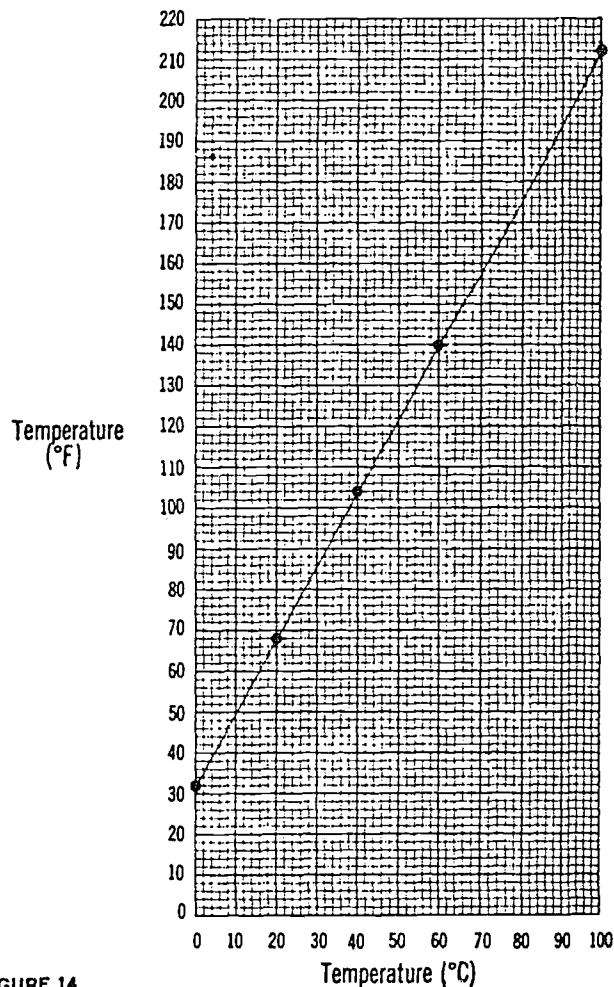

FIGURE 14
1. Have the children measure a variety of temperatures from 0°C to 100°C (indoors, outdoors, near a radiator, near a window, and so on), with both Celsius and Fahrenheit thermometers. From the data, let them construct a graph similar to the one shown in Figure 14, and use it to convert temperature readings from one scale to another. Give the children several Fahrenheit or Celsius temperatures and ask them to use the graph to convert the values to the other temperature scale.